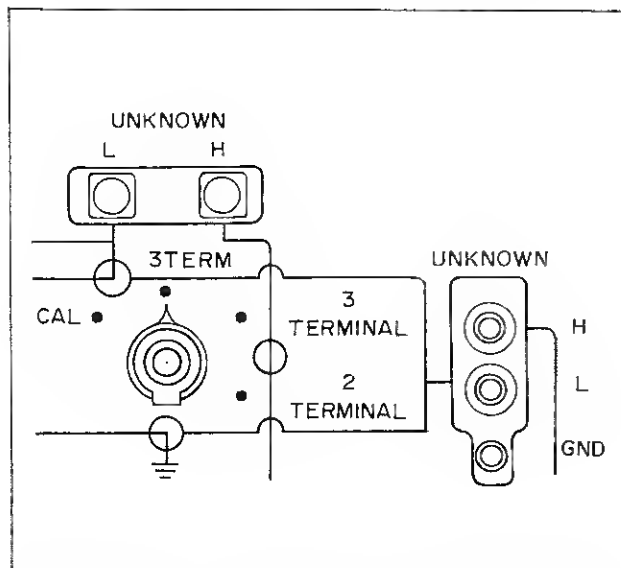

Figure 4-4. 1615-A Capacitance Bridge Setting
- d. Set the 1615-A Capacitance Bridge controls as illustrated in Figure 4-4.